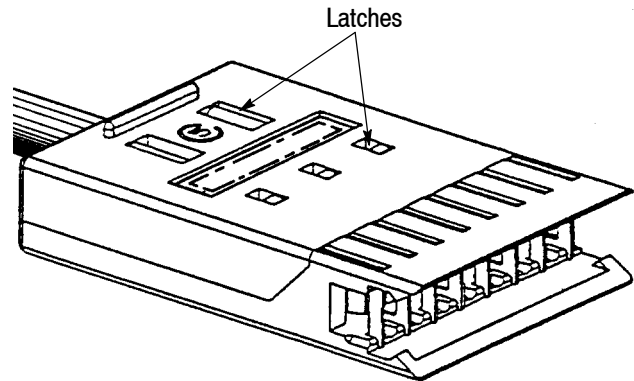

Figure 6
9. Visually inspect all latches for closure (see Figure 6).